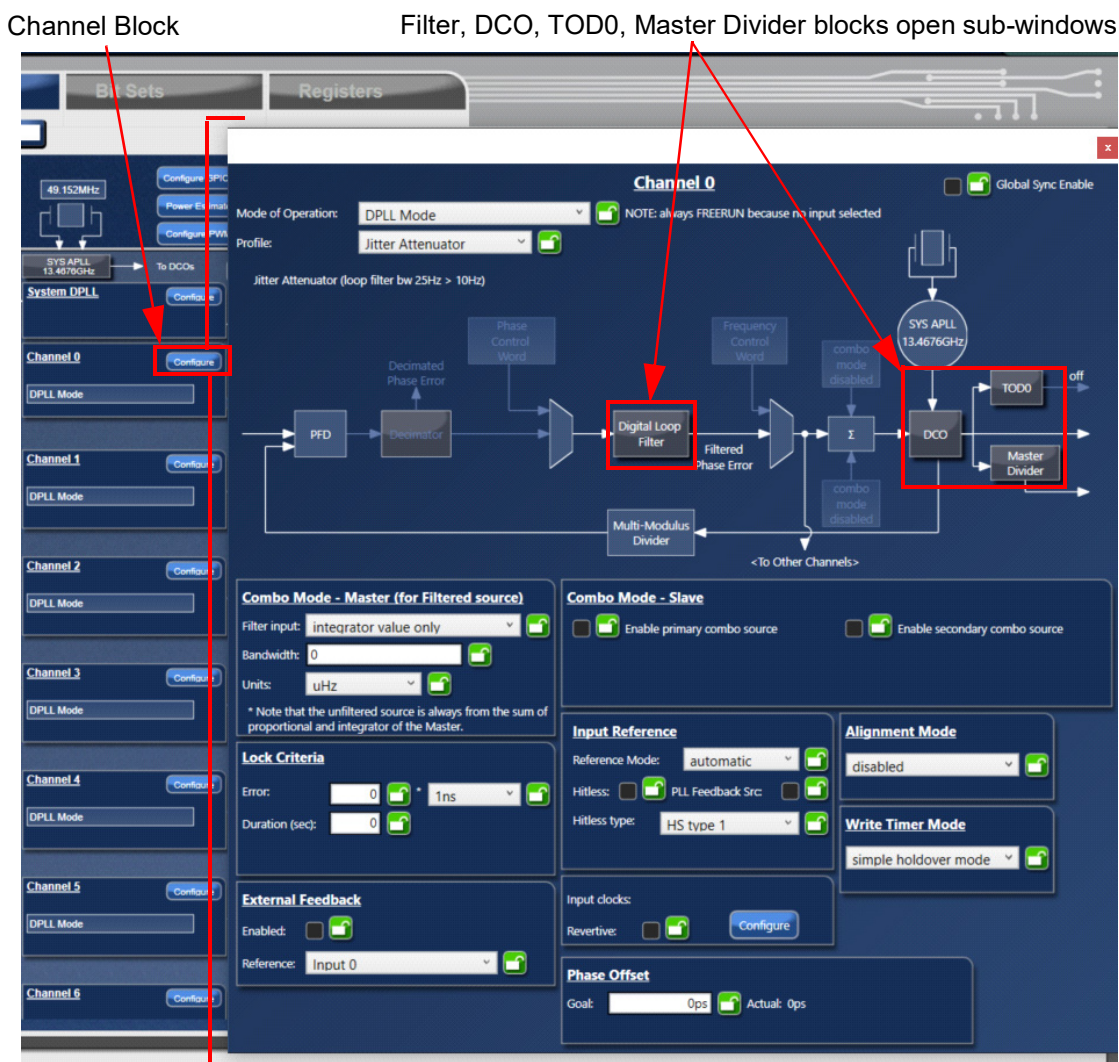

Figure 6. Channel Block Window
- Up to 8 independent channels depending on variant (see Figure 6)
- Each channel can be configured (see Figure 6) for: